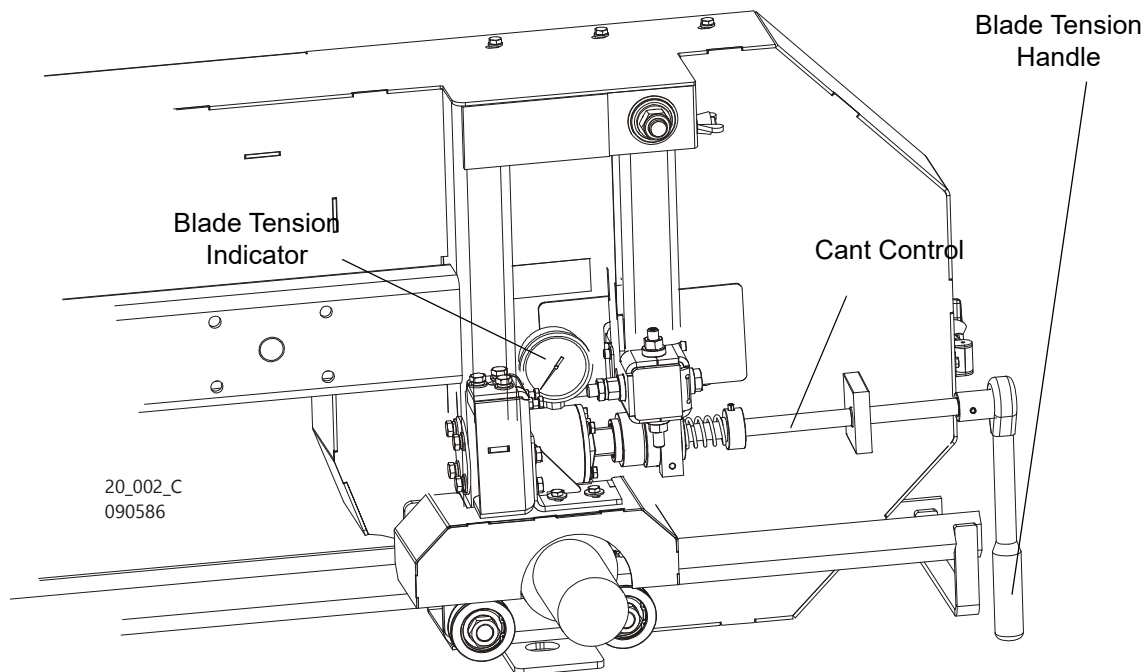

FIG. 2-6.
See Figure 2-6. Turn the blade tension handle clockwise until the tension gauge indicates the recommended tension. Check the blade tension occasionally when adjusting the cant control or while cutting. As the blade and belts heat up and stretch, the blade tension will change. Also, ambient temperature changes can cause tension to change.
5. Use the cant adjustment bolt, shown in **Figure 2-6** to adjust where the blade travels on the blade wheels.